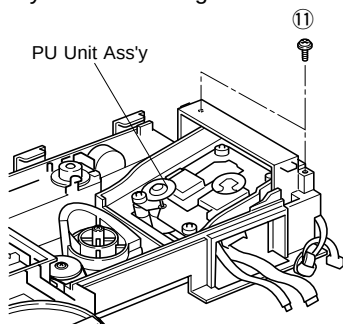

Fig. 6
- a. Remove 2 screws (⑪) and then remove the PU Unit Ass'y as shown Fig. 6.